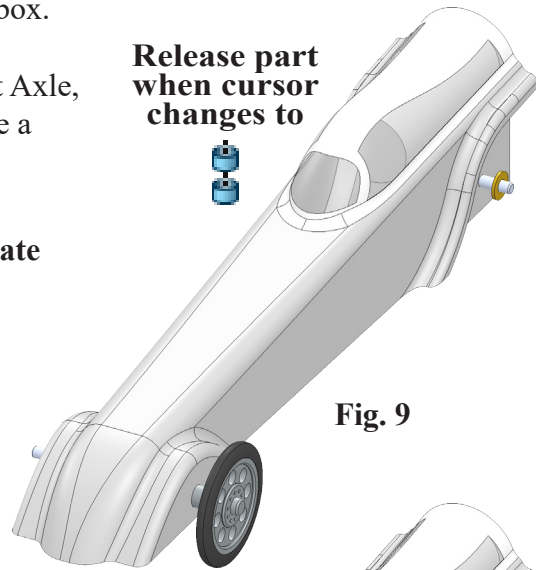

Fig. 9
Step 18. Place **FRONT WHEEL ASSEMBLY** on Front Axle, **Fig. 9**. Release when cursor changes to a Concentric mate .